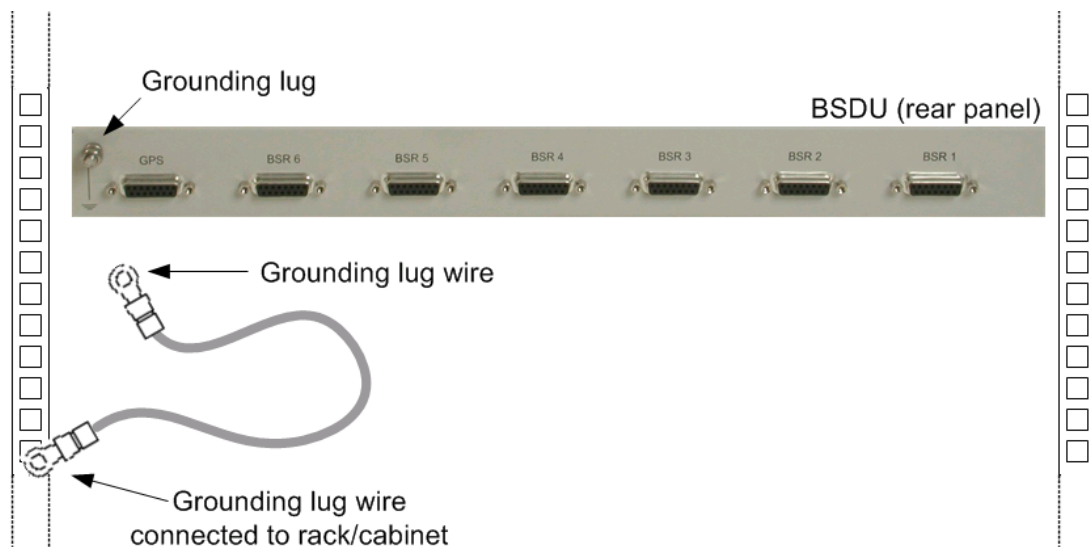

Figure 5-11: BSDU grounding connection (BSDU rear panel)
1. Connect one end of the grounding lug wire (green/yellow) to the grounding lug screw located on the rear panel of the BSDU chassis (see Figure 5-11).